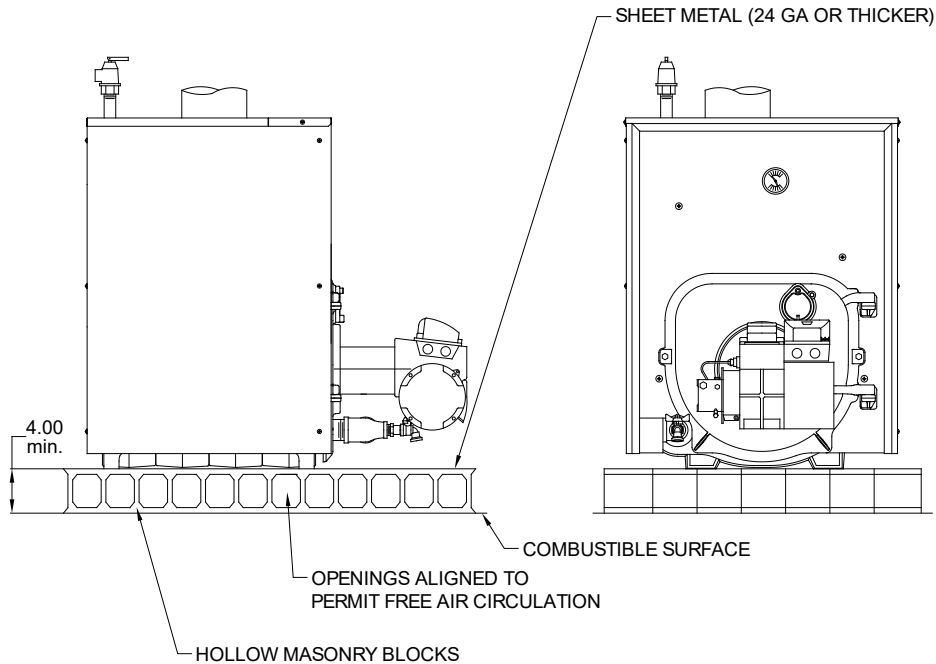

Figure 2-2: Installation Over a Combustible Floor
- Do not install this boiler directly on a combustible surface. Where it is desired to install this boiler over a non-carpeted combustible surface, install the boiler on the base shown in Figure 2-2.